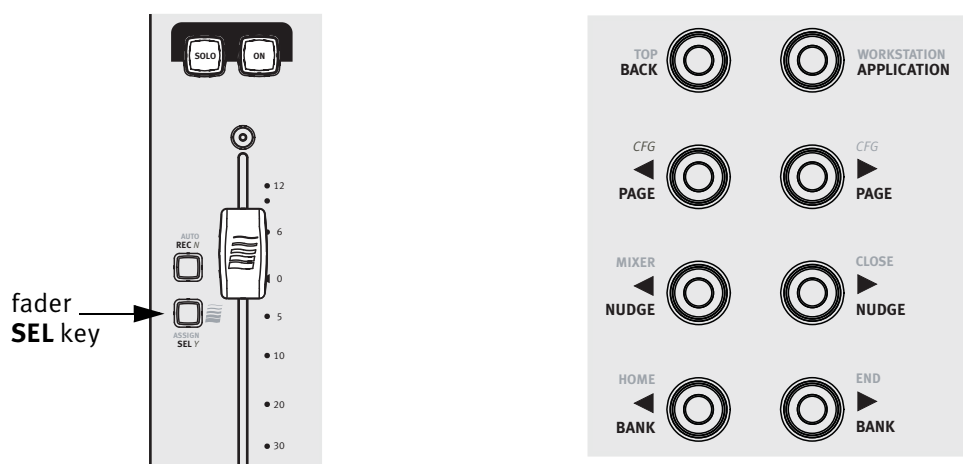
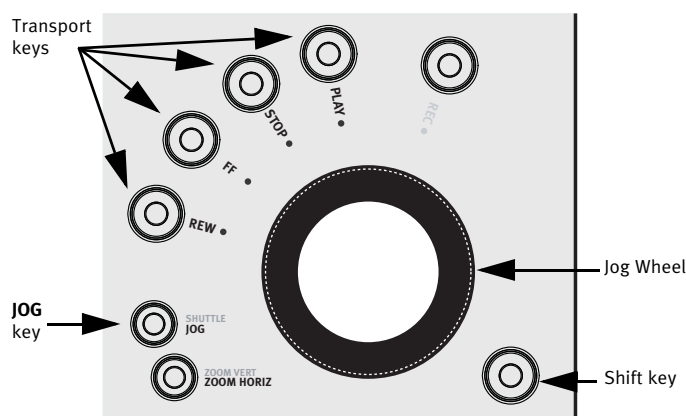

Figure 3-2 Fader strip (left); **PAGE**, **NUDGE**, **BANK**, and **BACK** keys (right)
Figure 3-3 Jog Wheel, transport keys, and bottom-right Shift key
- Press and hold the Shift key, found at the MC Control's bottom-left and -right, to access the functions labeled in blue (Figure 3-3).
1. Press strip 1's fader **SEL** key on your MC Control (Figure 3-2).
5. Press the **NUDGE** ► key (Figure 3-2) to move all four tracks over one strip.
6. Press and hold the Shift key (Figure 3-3) and press the **BANK** ◀ key (Figure 3-2) to restore tracks 1–4 to strips 1–4.
7. Press the **BANK ►** key (Figure 3-2) to shift tracks over four at a time.
2. If tracks 1–4 are not assigned to strips 1–4, press and hold the Shift key (Figure 3-3) and press the **BANK ◀** key to restore tracks 1–4 to strips 1–4.
4. Press the **BACK** key (Figure 3-2) until the top-level knobset is displayed on the Touchscreen.